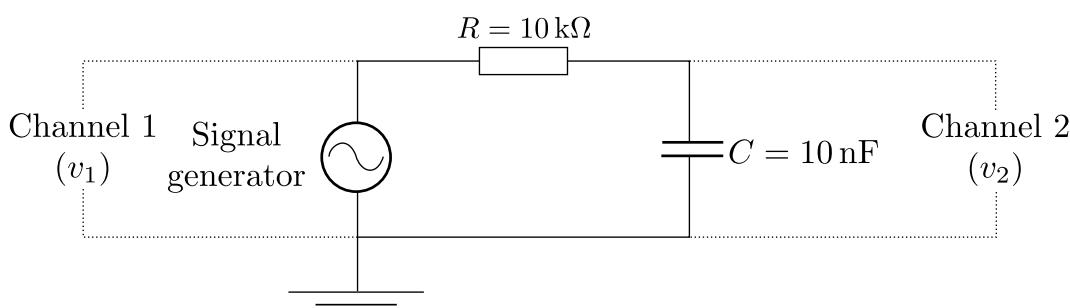

Figure 4: Circuit for the low-pass filter.
- Connect up the circuit in Figure 4. Check that both channels are set to $\times 1$, and set the signal generator to a peak-to-peak voltage of $\sim 10\text{ V}$.
- Note that, compared with Figure 4, the resistor and the capacitor have changed positions relative to the signal generator and the ‘common’ earth point at the oscilloscope. This does not change the potential difference across the individual components but it now allows us to measure the voltage v_R versus frequency.